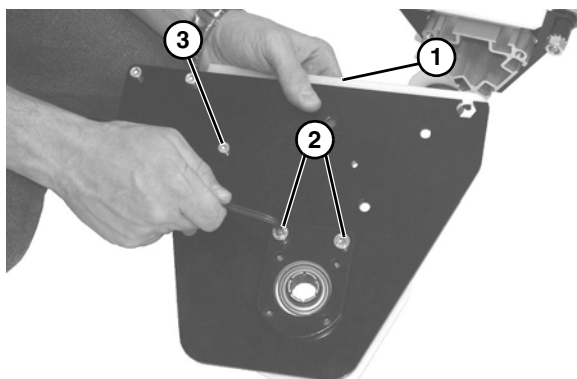

Figure 39
14. Check drive terminal assembly (**Figure 39, item 1**) for wear. If worn, remove two low head cap screws (**Figure 39, item 2**) and low head cap screw (**Figure 39, item 3**) and replace.